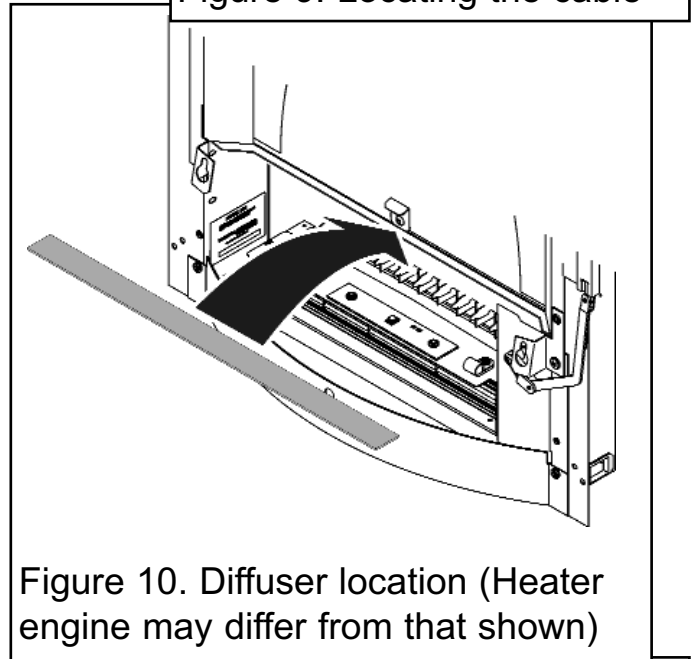

Figure 10. Diffuser location (Heater engine may differ from that shown)
1. There is a light diffuser supplied with the heater (See figure 10). Place this on to the metal flange below the plastic screen.